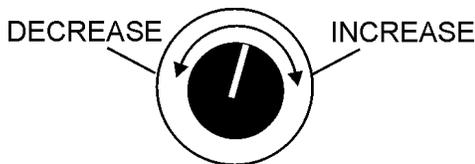

Figure 21. Voltage Regulator Knob
3. Turn the voltage regulator knob (Figure 21) clockwise to increase voltage output, turn counterclockwise to decrease voltage output. Use voltage regulator adjustment knob whenever fine tuning of the output voltage is required.